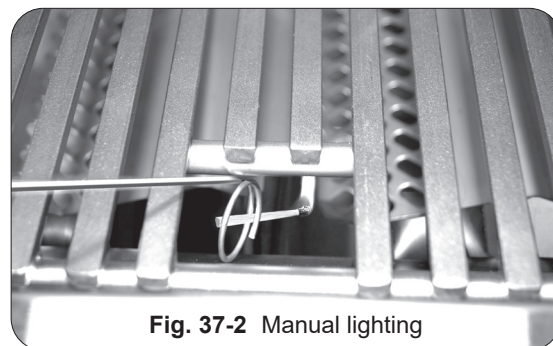

Fig. 37-2 Manual lighting
2. Insert either a burning long-barrel butane lighter or a burning long-stem match through the cooking grid opening to the top of the burner (see Fig. 37-2).
This unit includes a wire extension match holder (attached to the front of grill frame underneath grill top panel) to assist with manual lighting (see Fig. 37-2 and 3).